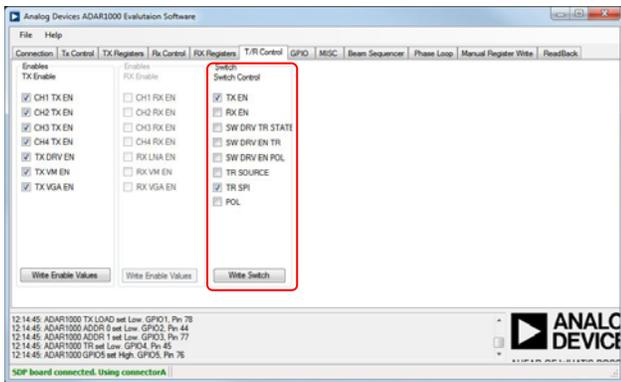

Figure 10. SPI Control, Transmit Enable, and Transmit Mode
1. Click the **T/R Control** tab (see Figure 10).